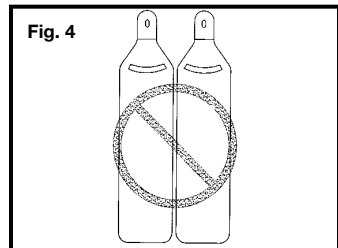

Fig. 4
**5. Never point tool at yourself or others in work area.** Serious injury or death may occur if the tool is activated. Fig. 4.
**6. Never use oxygen or other bottled gasses.** Explosion will occur. Never use combustible gases or any other reactive gas as a power source for this tool: explosion and serious personal injury will result. Fig. 4.